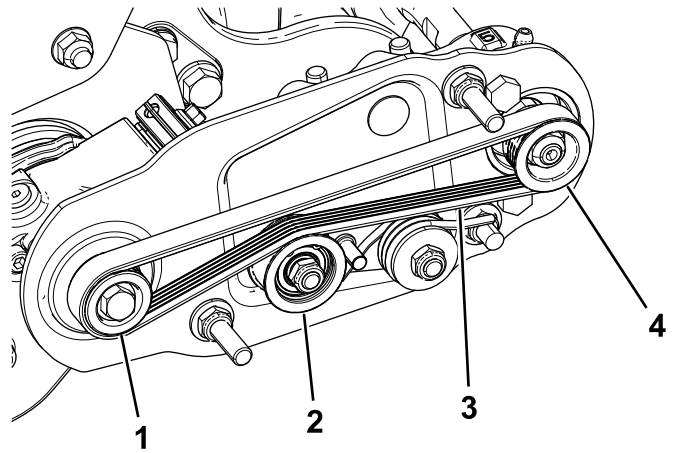

Figure 14
- Loop the belt around the **drive** pulley and then over the top of the idler pulley (Figure 14).